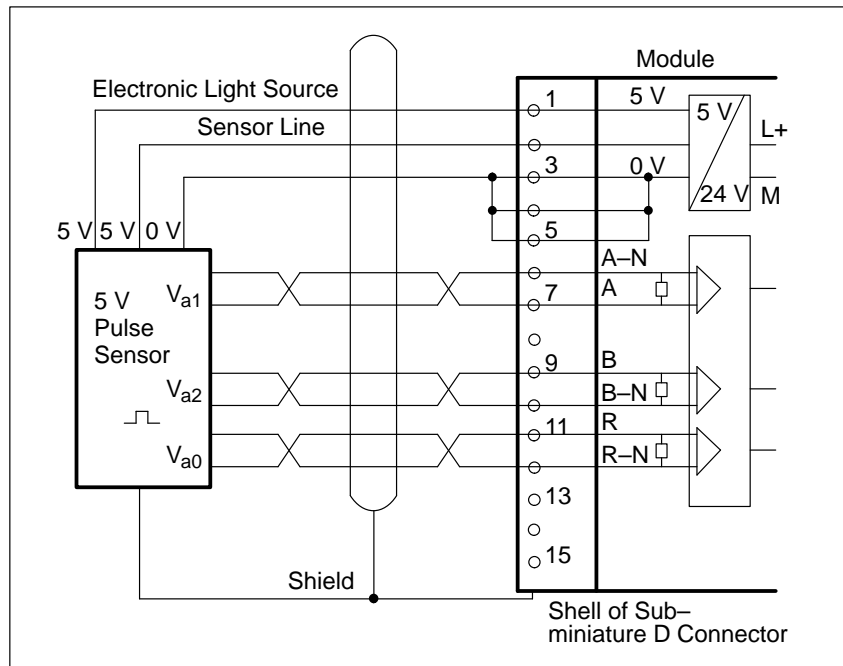

Figure 9-11 Connecting a 5 V Position Sensor to RS 422A
- Figure 9-11 shows how to connect a 5 V DC position sensor to RS 422A.